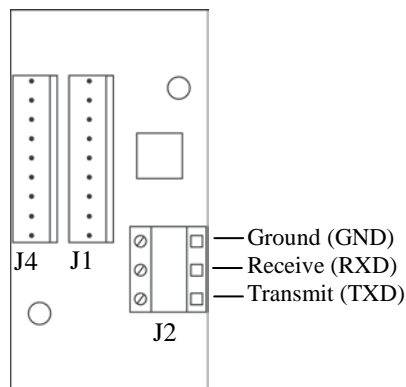

Figure 2.2 RS232 Connections
- Connect the wires to the terminal block J2 according to the Figure 2.2.